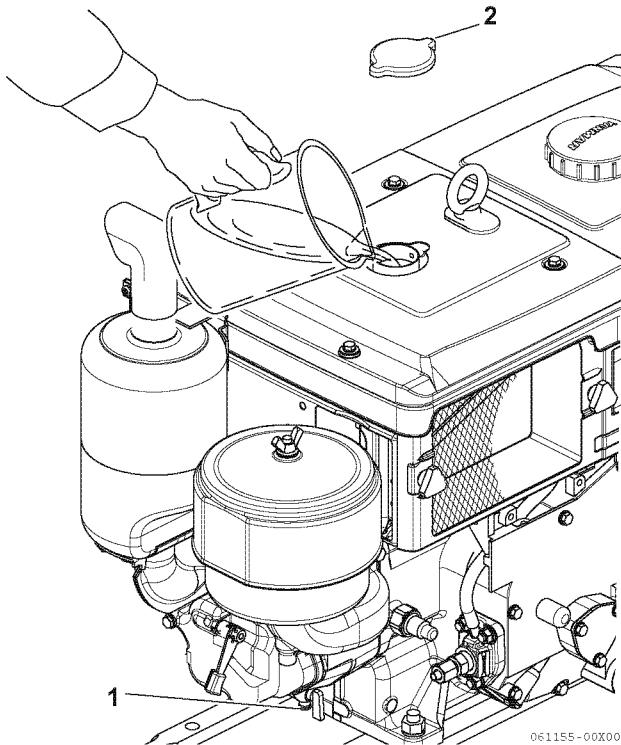

Figure 19
1. Check to be sure the radiator drain plug is installed and tightened or the drain valve (1, **Figure 19**) is closed.
2. Remove the radiator cap (2, **Figure 19**) by turning it counterclockwise about 1/3 of a turn.
4. Reinstall the radiator cap (2, **Figure 19**). Align the tabs on the back side of the radiator cap with the notches on the engine coolant filler port. Press down and turn the cap clockwise about 1/3 of a turn.